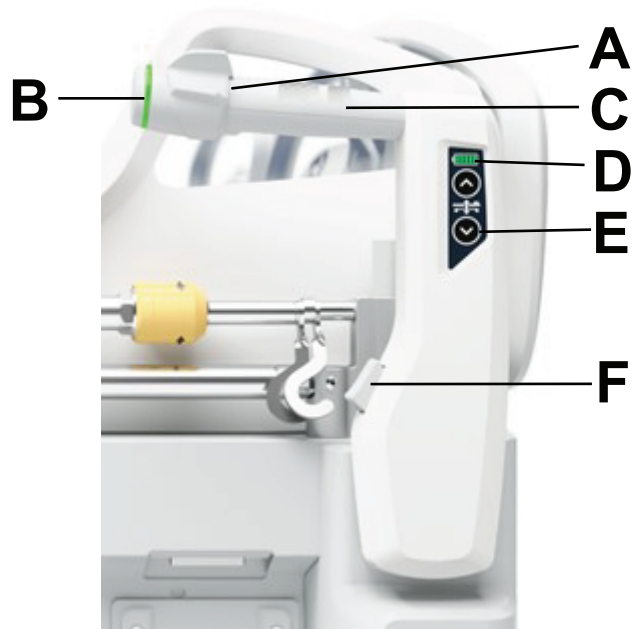

Figure 15 – Zoom throttle
To lower the **Zoom** handles, press the handle release (F) on the base of the handle and lower the handle (Figure 15).
The **Zoom** throttle (A) (Figure 15) has three drive modes.